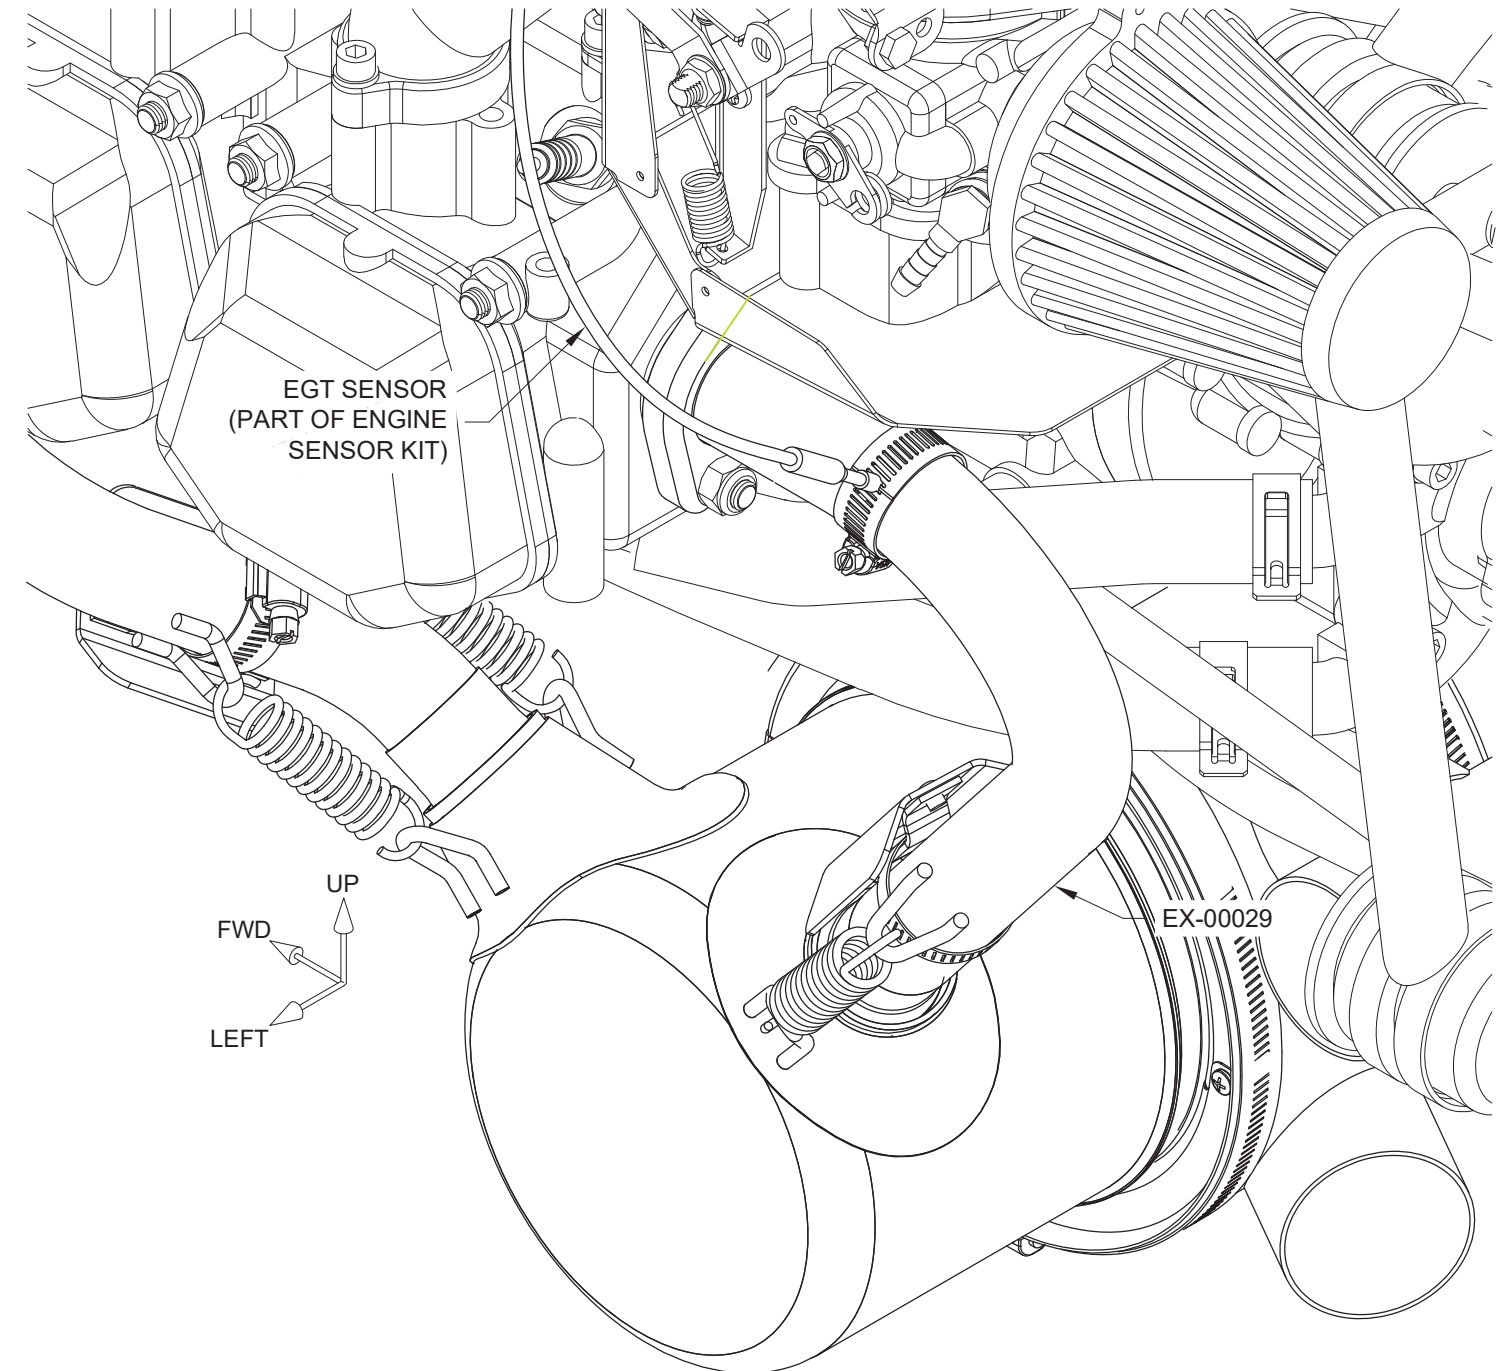

FIGURE 2:
Step 2: Install the remaining EGT sensor into the EX-00029 Cylinder #4 Exhaust as shown in Figure 2.
The EGT sensor wire is routed from the exhaust along the left carburetor fuel hose (not shown in Figure 2) upward and inboard to the top of the engine where it then follows the pitot line aft and down to the point where its spade connectors are mated to the EGT-L wires coming from the aft side of the firewall.